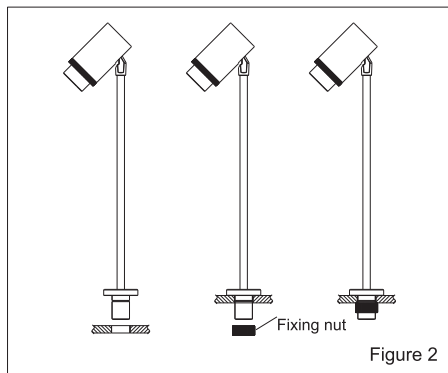

Figure 2
2. First, remove the fixing nut, thread the fixture through the pre-cut hole, then tighten the nut to secure. (Figure 2)